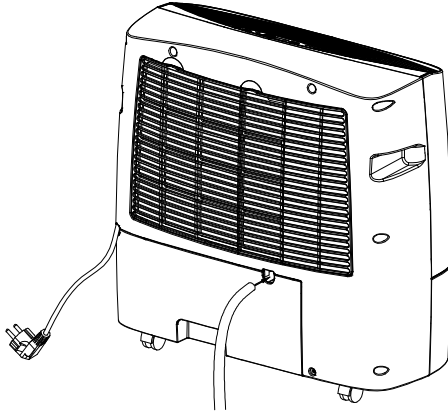

FIG. 3
3. Connect the drain hole with a water tube of inner diameter 12mm. (FIG.3) * *Please note the water tube is not supplied with the unit.*